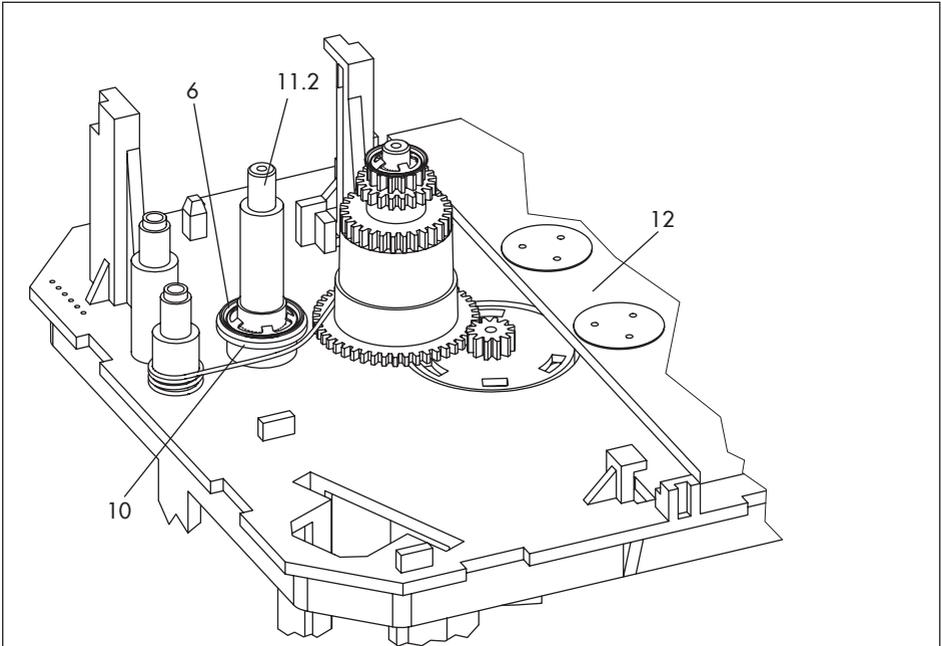
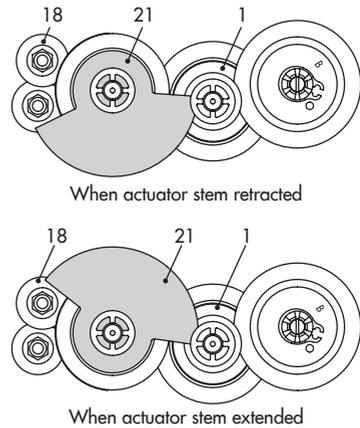

Fig. 12: Retrofitting limit contacts (when resistance transmitters are already installed)
Fig. 14: Alignment of the contact cam unit
11. Slide the cam holder with both contact cams onto the spindle 2 (11.2) corresponding with the position of the actuator stem as illustrated in Fig. 14. Make sure that the outermost cog of the cam support (20) engages in the gearwheel of the intermediate gear (1). In addition, the adjustment gears (18) must engage properly in the corresponding gears of the contact cams (19).
12. Secure the cam holder (20) and intermediate gear (1) with the serrated ring (3); push down the serrated ring as far as it will go.
13. Position the terminal board (17) at the base of the support at a 45° angle (approx.) with the switches pointing towards the gears. Swivel the upper end of the terminal board towards the gears until the board is in a vertical position and properly engaged in the support.
14. Slide the actuator board (12) back into its guiding. Make sure that the gears are properly engaged. Fasten the board using screws.
Legend for Fig. 12 to Fig. 14: